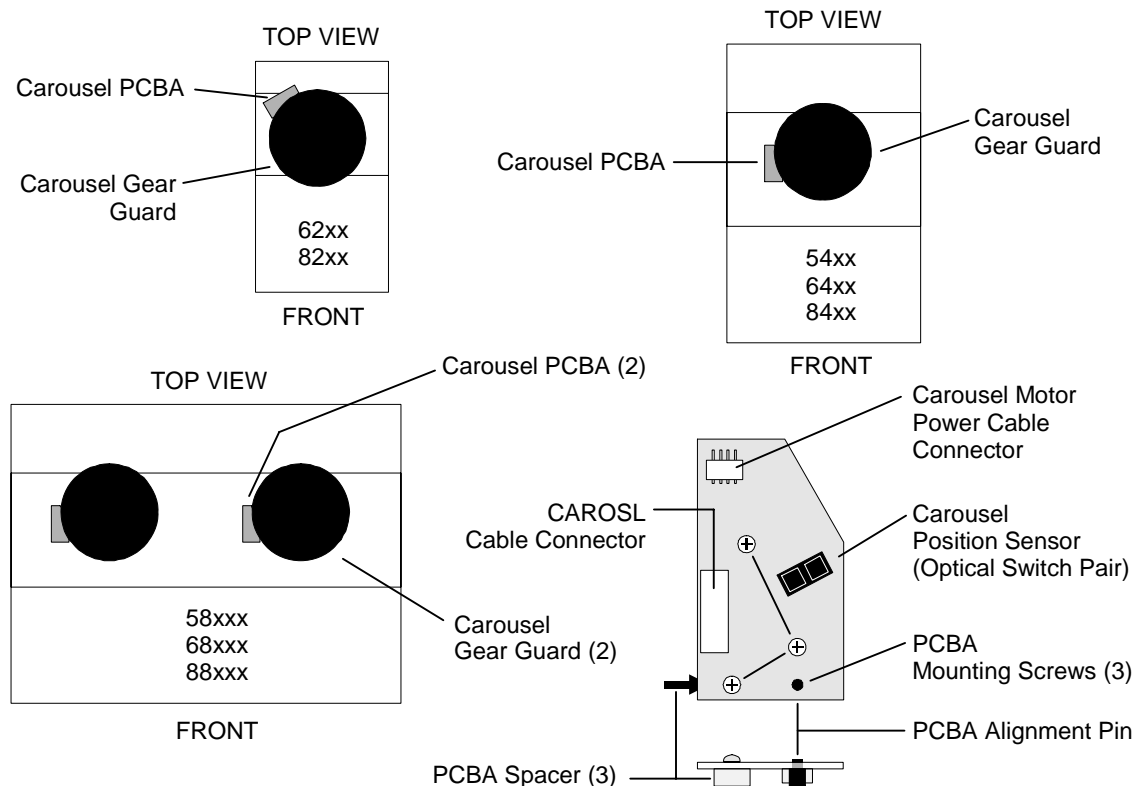
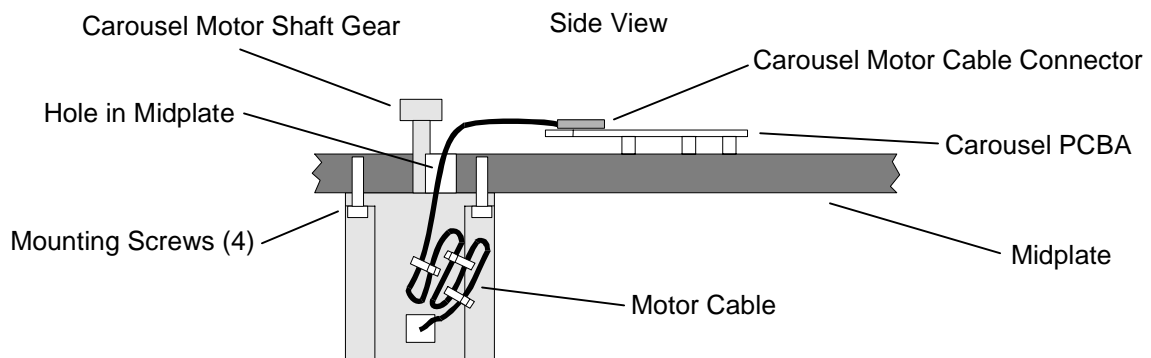

Figure 7-67 The Carousel PCBA (3 Views)
Figure 7-73 Carousel Motor in Dual Bay TLS
6. Reach in through the cabinet door and disconnect the CAROSL Cable and the Carousel Motor Power Cable from the Carousel PCBA (Figure 7-67).
If necessary, rotate the carousel slightly by hand to reach each PCBA mounting screw (Figure 7-67).
7. Use a number 2 Phillips screwdriver to remove all three PCBA mounting screws and PCBA spacers (Figure 7-67).
In the next step, be careful not to damage the Carousel Position Sensor on the Carousel Gear Guard Figure 7-67), as you remove the Carousel PCBA.
8. Lift the Carousel PCBA slightly to clear the PCBA Alignment Pin, then gently slide the PCBA along the Carousel Gear Guard toward the front of the cabinet. When the Carousel Position Sensor is in front of the Carousel Gear Guard, slide the Carousel PCBA towards the cabinet door to remove it (Figure 7-67).
In the next steps, be careful not to damage the Carousel Position Sensor on the Carousel Gear Guard (Figure 7-67), as you install the Carousel PCBA.
3. Gently slide the PCBA along the Carousel Gear Guard toward the left, rear of the cabinet and fit the PCBA down over the PCBA Alignment Pin (Figure 7-67).
4. Align the Carousel PCBA spacers under the PCBA with the PCBA mounting screw holes (Figure 7-67).
5. Use a Phillips screwdriver to install all 3 PCBA mounting screws, then tighten the screws until they are snug (Figure 7-67). If necessary, rotate the carousel slightly by hand to reach each PCBA mounting screw.
6. Reach in through the cabinet door and connect the CAROSL Cable and the Carousel Motor Power Cable to the Carousel PCBA (Figure 7-67). The connectors are keyed to fit only one way.
Be careful not to damage the Carousel Position Sensor with the Carousel Gear Guard when you remove the Carousel (Figure 7-67).
9. Disconnect the Carousel Motor cable from the Carousel PCBA (Figure 7-67).
3. Reconnect the Carousel Motor cable to the Carousel PCBA (Figure 7-67).
Be careful not to damage the Carousel Position Sensor with the Carousel Gear Guard when you reinstall the Carousel (Figure 7-67).
10. Reach in through the cabinet door and disconnect the Carousel Motor Power Cable from the Carousel PCBA (Figure 7-67 and Figure 7-73).
4. Reconnect the Carousel Motor cable to the Carousel PCBA (Figure 7-73).